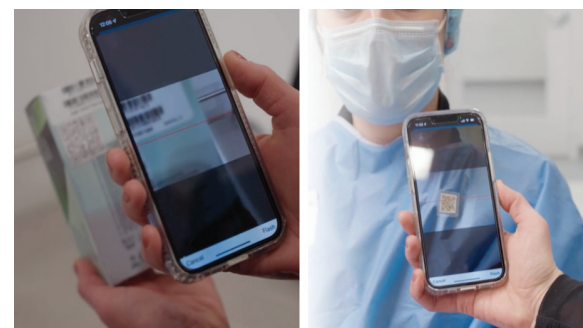

Figure 3. The EyeTelligence phone app is used to scan the patient's QR code and the bar code on the IOL box.
**In the OR.** Staff can scan a patient QR code and the barcode on the IOL box with the EyeTelligence phone app to determine if the correct patient and IOL are in the OR (Figure 3). This can help prevent errors, which may occur despite rigorous checks instituted by the surgeon and staff.